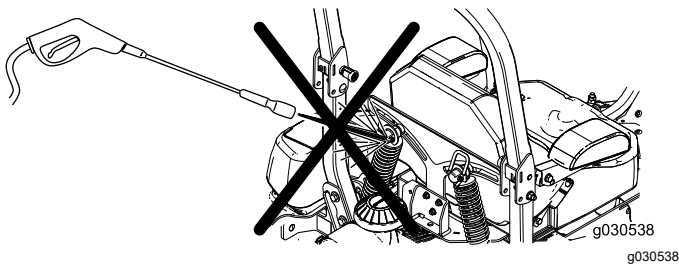

**Figure 88**
**Note:** Do not clean the shock assemblies with pressurized water (Figure 88).